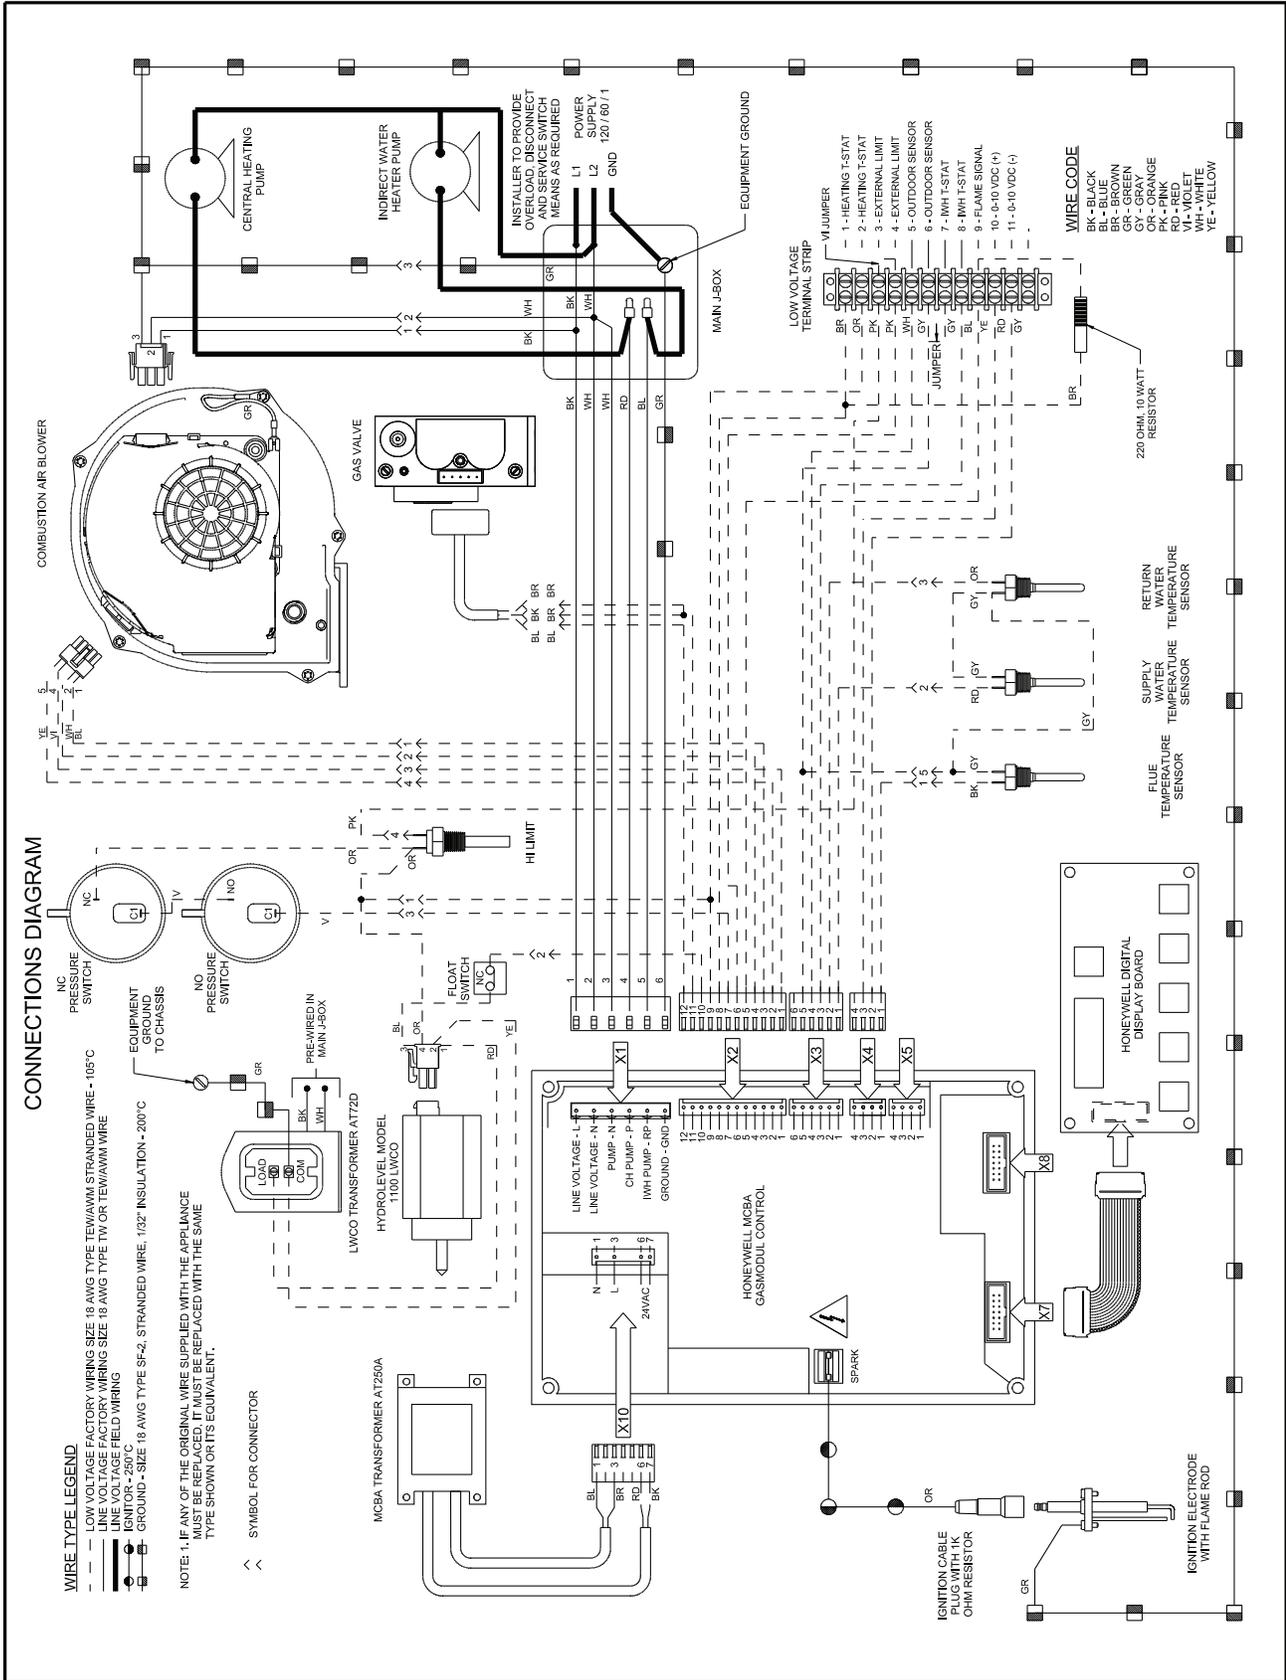

Figure 9.1: Wiring Connections Diagram
- 7) Manual Reset High Limit (Required by some codes) - This control is required by ASME CSD-1 and some other codes. Install the high limit in the boiler supply piping just above the boiler with no intervening valves. Set the manual reset high limit to 200°F. Wire the limit per Figures 9.1 & 9.2 in the Wiring section.
- 1) Line Voltage (120 VAC) Connections (Fig 9.1) – The line voltage connections are located in the junction box on the right side of the vestibule:
- 3) Low Voltage Connections (Fig 9.1) – These connections are screw terminals located on the terminal strip next to the junction box on the left: